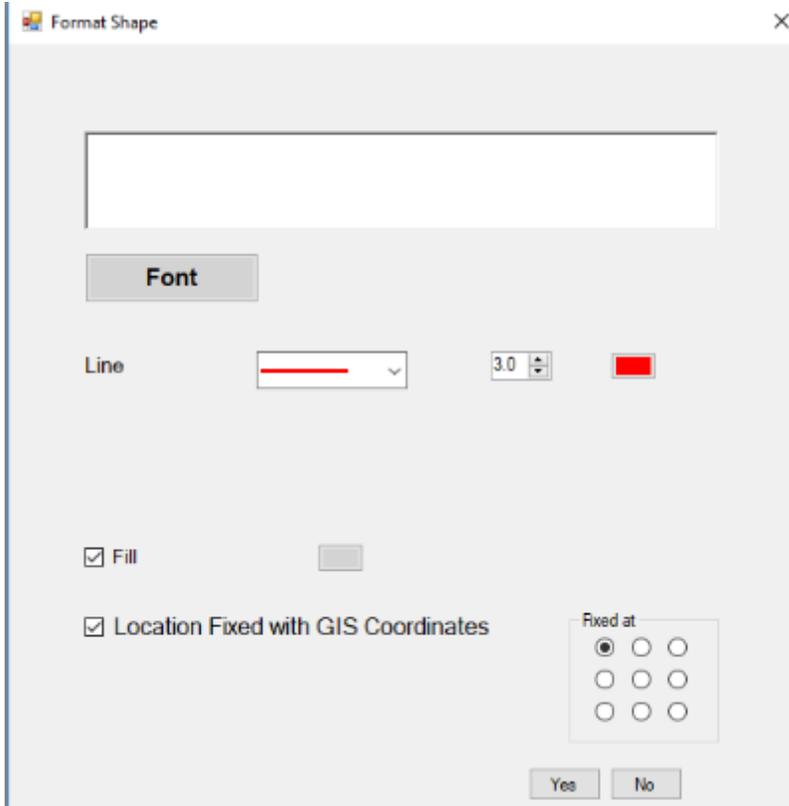

Figure 4-5. Form to format a shape.
- Format the shape. Double-click the shape to bring a format form (Figure 4-5).